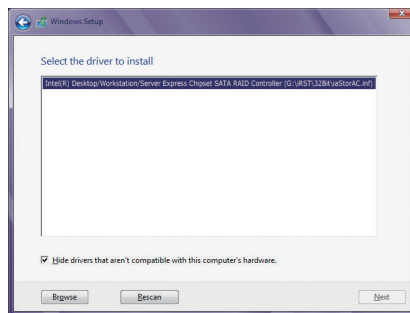

Figure 1
When a screen as shown in Figure 1 appears, select **Intel(R) Desktop/Workstation/Server Express Chipset SATA RAID Controller (G:\IRST\32Bit\AStar44.inf)** and click **Next** to load the driver and continue the OS installation.